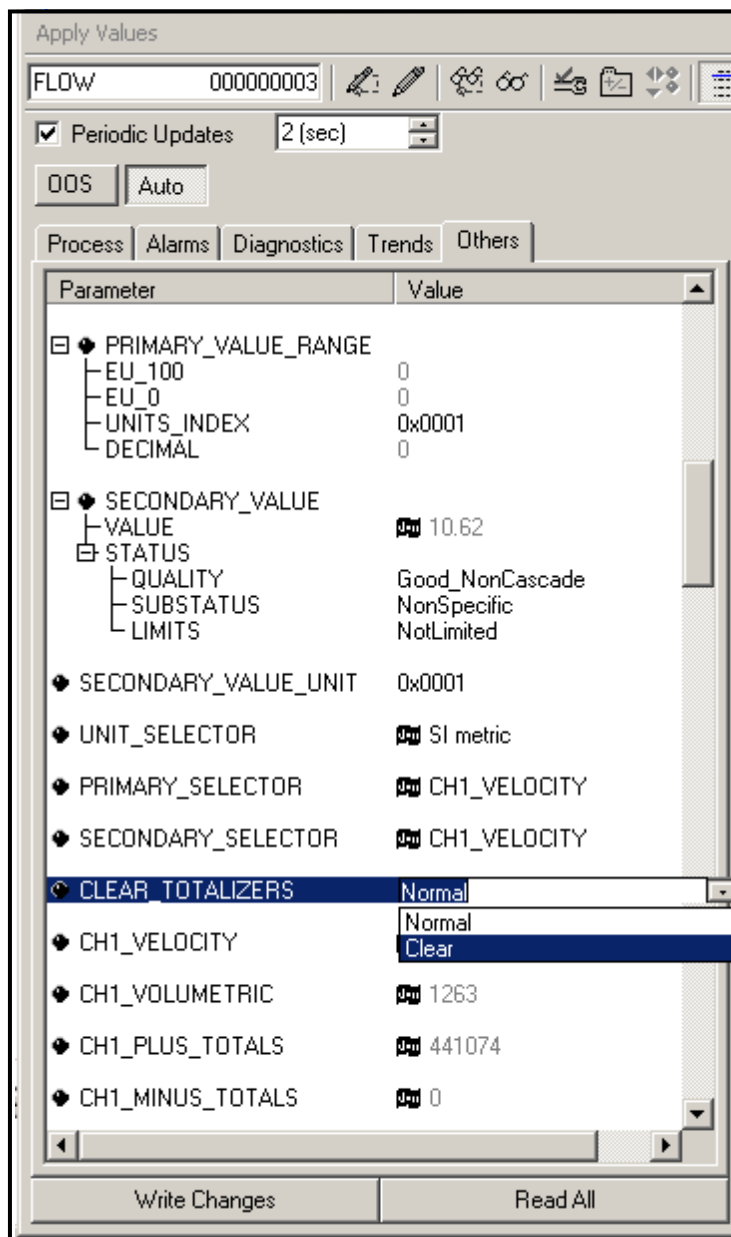

Figure 62: Clear Totalizers Drop Down List
3. Select **Clear** from the drop down list box (see Figure 62).